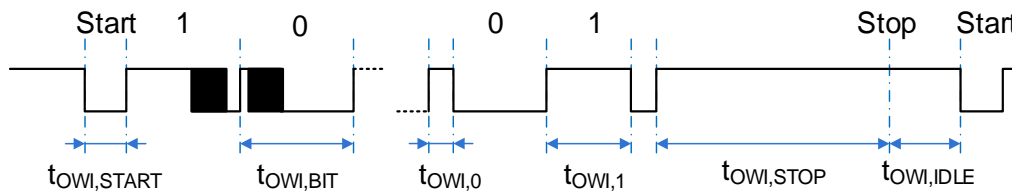
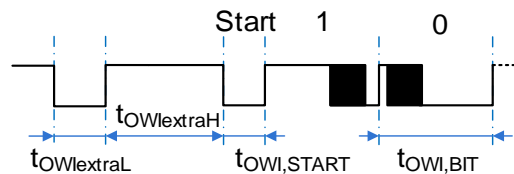

Figure 14. OWI Timing Diagram
Figure 15. OWI Extra (Activation) Pulse for Concurrent OWI and Analog Output Configuration
- **Valid Data:** Data is transmitted in bytes (8 bits) starting with the most significant bit (MSB). Transmitted bits are recognized after a start condition at every transition from low to high at the OWI line. The value of the transmitted bit depends on the duty ratio between the high phase and high/low period (bit period,  $t_{OWI,BIT}$  in Figure 14). A duty ratio greater than  $1/8$  and less than  $3/8$  is detected as 0; a duty ratio greater than  $5/8$  and less than  $7/8$  is detected as 1. The bit period of consecutive bits must not increase to more than 1.5 times the previous bit period or decrease to less than half of the previous bit period because a stop condition is detected in this case.
OWI protocol timing and parameters are specified in Figure 14, Figure 15, and Table 23.
- **Continuous OWI and Analog Output:** The configuration  $owi\_off = 0$ ,  $cont\_ANAOutn = 0$ , and  $owi\_su\_case = 1$  results in AOUT providing analog output levels as soon as they are available after power-up (in Cyclic Mode). Concurrently, the OWI listens to the AOUT1 pin in order to check for valid OWI commands. The OWI still needs to be enabled by means of the *Startup OWI* command. The physical protocol in this configuration requires an extra pulse (see Figure 15) prior the *Startup OWI* command. After the release of the extra OWI initialization pulse, the analog output is switched off2 and AOUT becomes the OWI I/O pin until the OWI startup window (according to  $owi\_su\_length$ ) has elapsed. The OWI-master implements *Dynamic Driving* to avoid dynamic currents (due to DAC-output level changes) causing unwanted pull-up signal generation (via  $ROWI,PULL$ ). When *Dynamic Driving Approach* is not applied in this configuration, set the constantly connected OWI-master pull-up resistances ( $ROWI,PULL$ ) to  $\geq 5.5k\Omega$  to prevent erroneous OWI-start detections that can be triggered by changing DAC-output levels. Limit the interface speed to slower values with the proper setting, such as longer bit period.